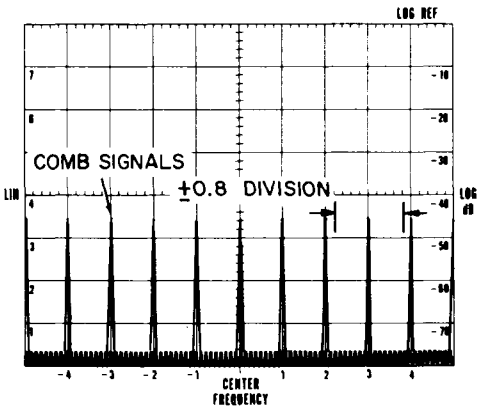

Figure 4-10. Scan Width Accuracy Measurement
2. With control settings as in step 1 above, a comb signal occurs every 100 MHz on the display (see Figure 4-10). Tune FREQUENCY and FINE TUNE to line up a comb signal with the far left graticule line.